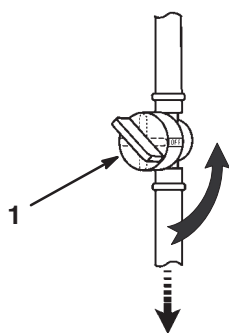

Figure 29
6. Close the fuel shutoff valve (Fig. 29).